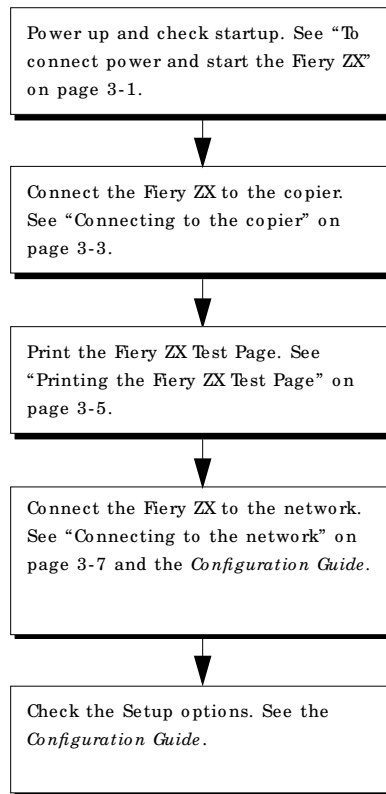

FIGURE 4-8 Fiery ZX connection verification steps
7. Before you leave the customer site, verify Fiery ZX operation as outlined in Figure 4-8.